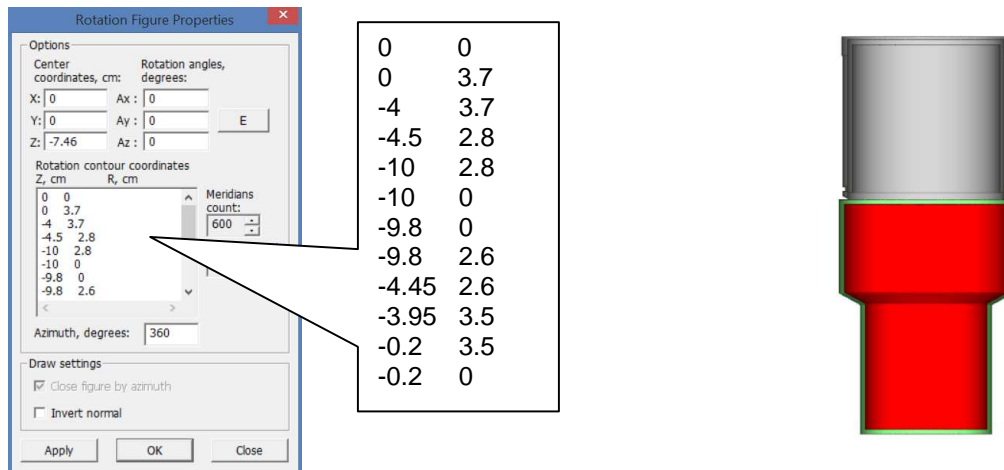

Figure 53.5
7.5 Add the element 'PMT'. To do this in the right pane click the button **New Element** and enter the name 'PMT'. Next, choose from the list the type of surface **Rotation figure**. In the dialog window **Rotation figure parameters** enter the data for the construction as shown in Figure 53.5 [Section 3.2].